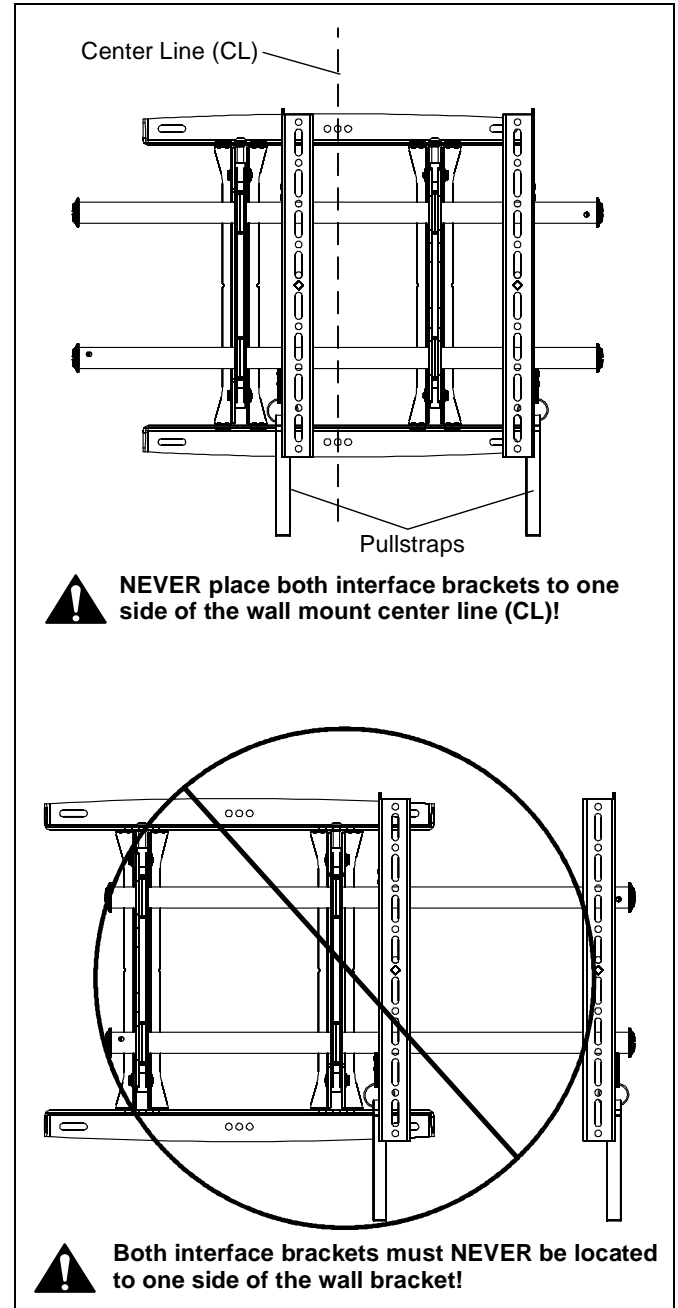

Figure 8
1. Adjust Velcro® pull strap (if necessary) so it does not extend beyond bottom of screen. (See Figure 8)
**NOTE:** Do NOT allow both interface brackets to be located on same side of wall bracket. (See Figure 8)
**NOTE:** NEVER place both interface brackets to one side of the wall mount center line! (See Figure 8)